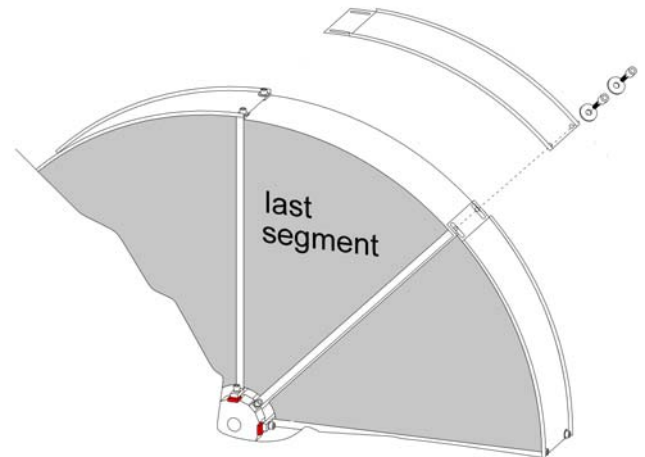

Figure 14
- When the last segment is mounted no spacer discs are needed any more. (Figure 14)
- Integrate the last rotor circumferential panel into the rotor circumferential panel ring (Figures 14 and 15). The last circumferential panel needs to be brought under the first circumferential panel. For this the screws of the first, already attached circumferential panel have to be screwed out again.